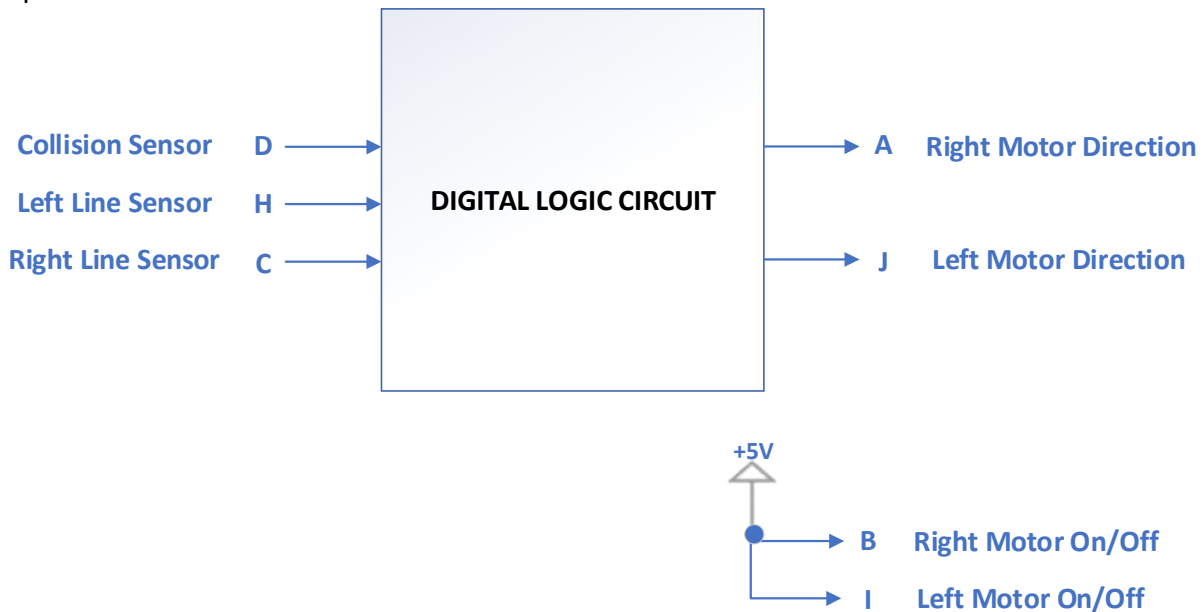
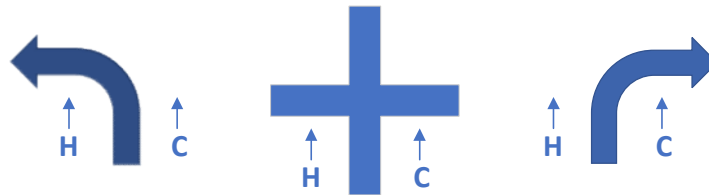

Figure 5: A Block Diagram with Reduced Signal Set
Figure 6: Robot Motion and Sensor Position Along the Track
the robot is on and control only the forward or reverse motor direction. In this case, the engineer would wire robot signals B and I to the battery power supply (logic 1 = VCC = +5V) and only implement canonical equations for direction control signals A and J. Similarly, some robot tasks might not require the center line sensor and thus an engineer could ignore sensor signal G. In this case, the number of truth table rows decreases from sixteen to eight – reducing the complexity of the canonical equations. Figure 5 shows the block diagram under these simplifications.
1. **Complete** a truth table for each output in Figure 5. The task is to keep the robot centered over a black line of electrical tape placed on a white surface in a random path. You will place the robot onto the track with the center sensor aligned over the black line. Horizontal tape forms road blocks on the track at periodic intervals. The first step in design is to determine appropriate behaviors for each input pattern. **Use** Figure 6 to help think about how the logic outputs for the left and right line sensors change as the robot rolls along the track.